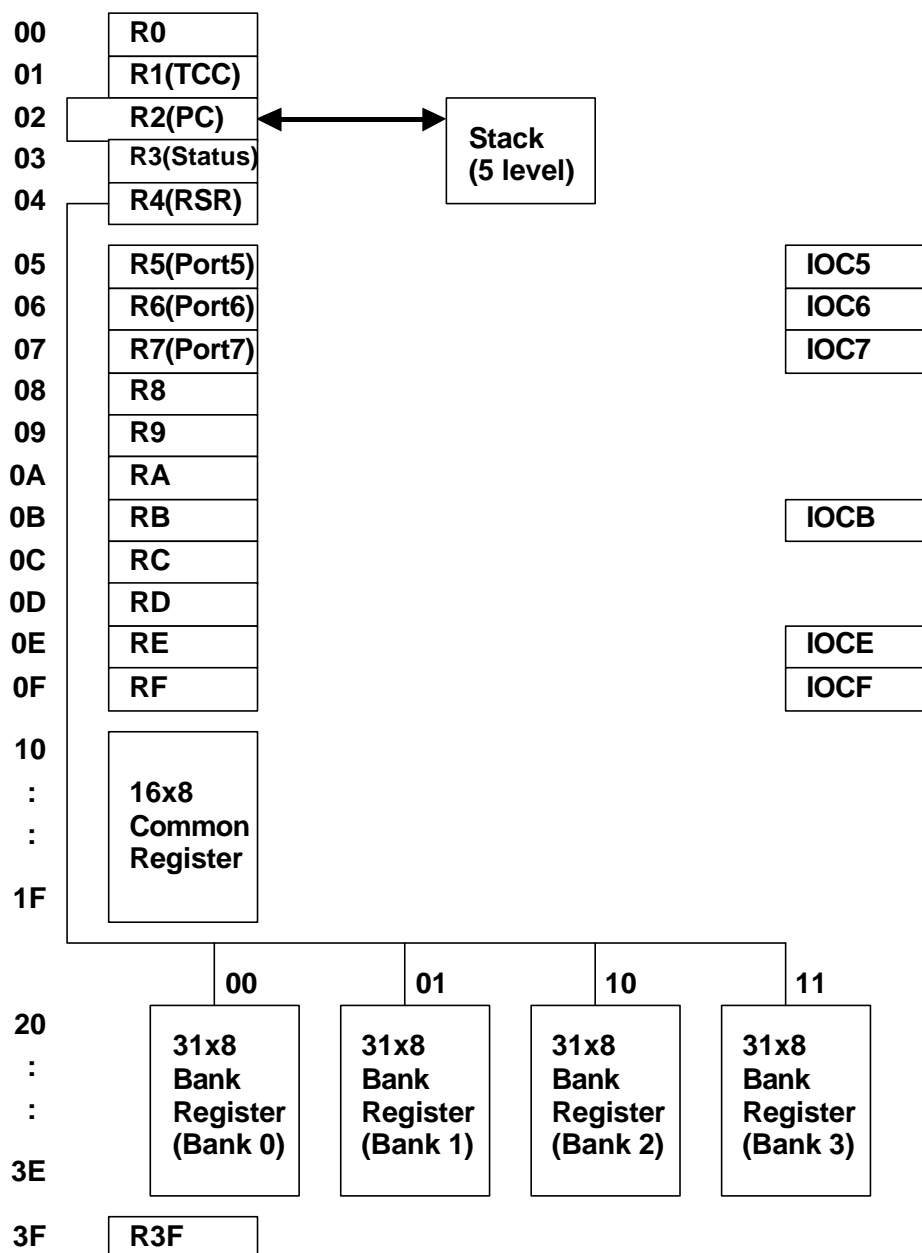

Fig. 4 Data Memory Configuration
- Bit 7 (GP) General read/write bit.
- See the configuration of the data memory in Fig. 4.